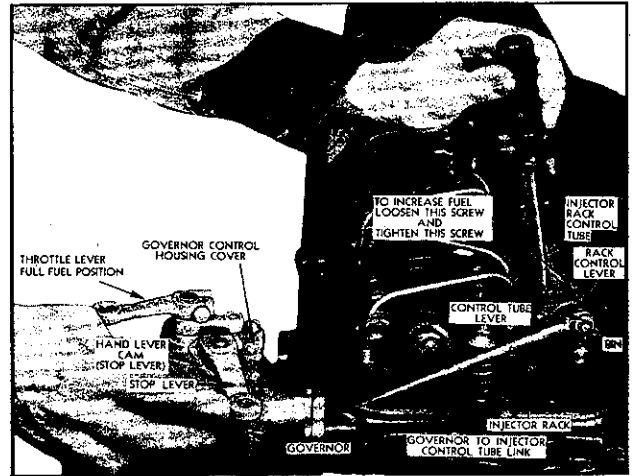

Fig. 20—Positioning Injector Control Racks.
1. Back off several turns on both adjusting screws in rack control lever at the injector being adjusted. (See Fig. 20.)
2. Hold the injector racks all the way IN (full-fuel position) by pushing the throttle lever to "full fuel" position as shown in Fig. 20. Adjust rack control lever to the full IN position by slowly turning down inner adjusting screw until injector rack can just be felt striking "bottom" and the other racks can be seen to just begin moving OUTWARD. Then tighten down outer adjusting screw and lock inner screw.